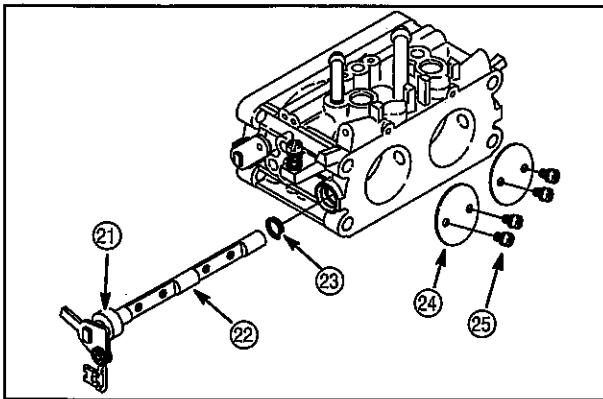

Fig. 66
10. Mark throttle plates (24) before removing to ensure reinstallation in the original position, Fig. 66.
11. Remove throttle shaft (22), spacer (21) and seal (23).